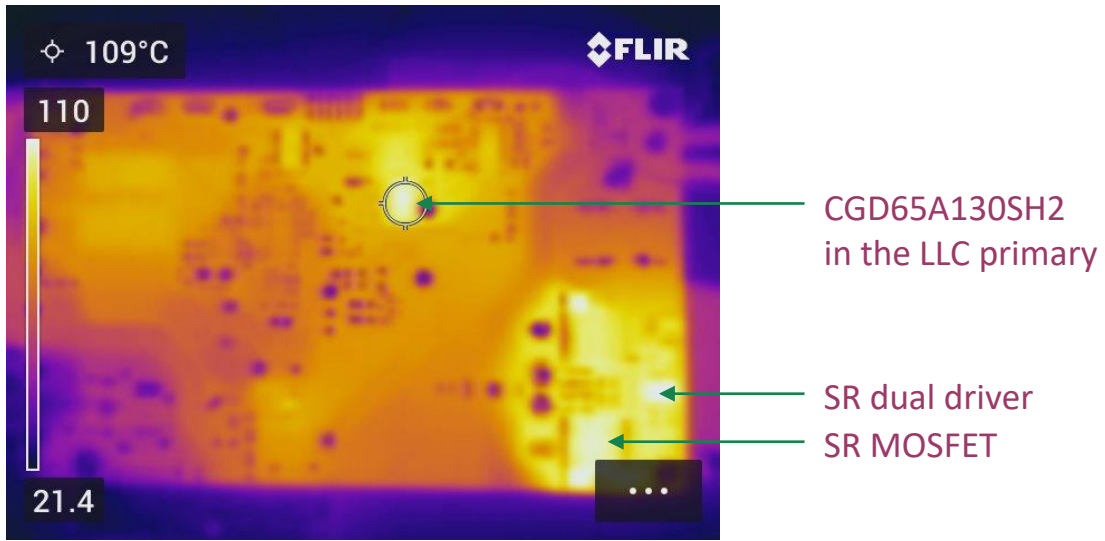

Figure 23 – Thermal camera image showing the bottom of the mainboard after reaching thermal stability
- The board underwent testing in an inverted position, with the bottom side facing upwards, to facilitate the capture of thermal images. The ICeGaN devices in the LLC side did not have any thermal relief (no heat-spreaders) and the temperature was monitored with a thermal camera; see Figure 23.
- The LLC SR device temperatures were monitored with a thermal camera; see Figure 23.